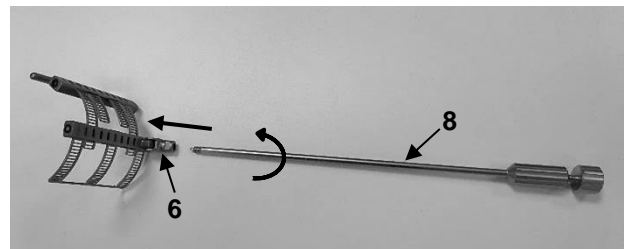

Fig. 7
To raise or lower the Treede Maxposition Blade, the blade guide MRN-3 (8) must first be screwed clockwise into the thread of the joint (6) (Fig. 7).